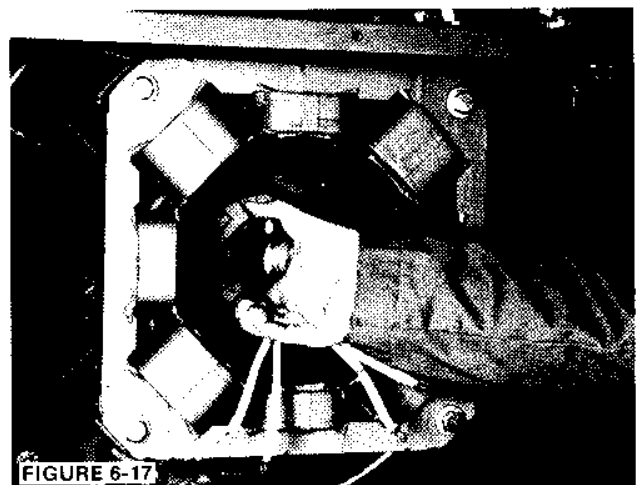

FIGURE 6-17
2. Remove the snap ring which holds the PMG rotor in place on the shaft. (Figure 6-17 and 6-18.)